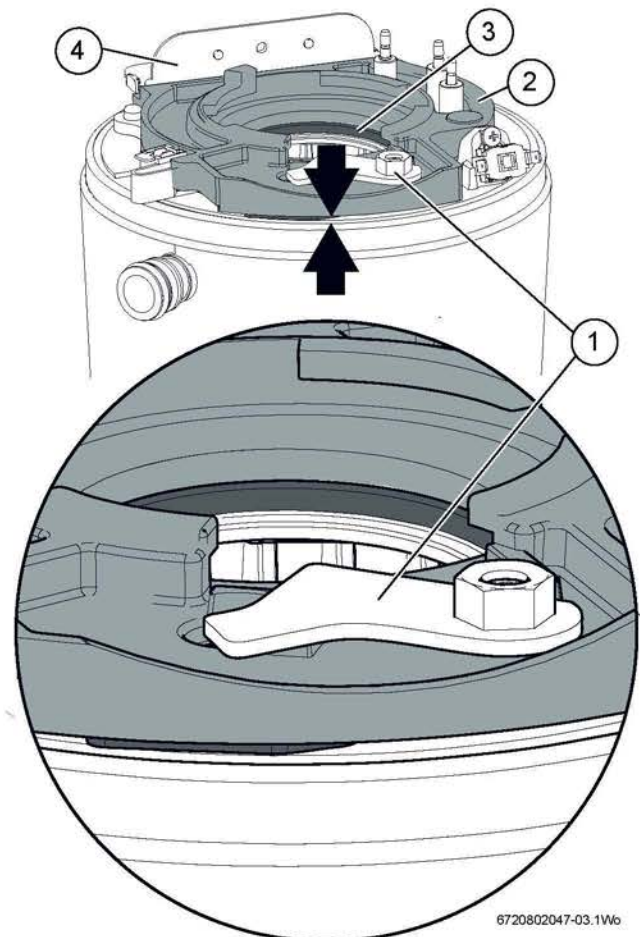

Fig. 85 Initial location of the clamping plate
- ▶ Ensure that the retaining plate [1] is in the position shown in figure 85
- ▶ Initially there will be a gap between the clamping plate and the top of the heat exchanger, refer to figure 85